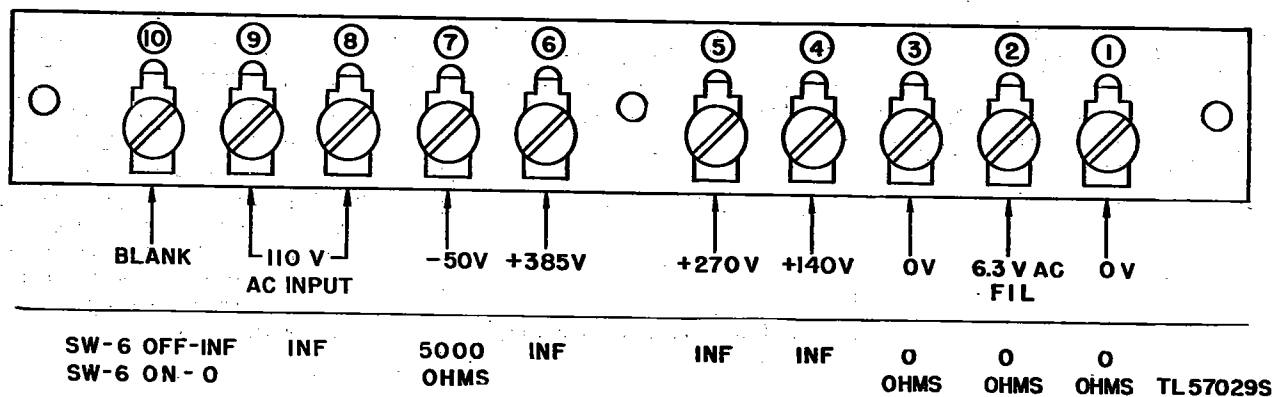

Figure 36. Receiver terminal strip, voltage and resistance measurements.
*c.* If no abnormal indication appears, measure the voltage and resistance between the terminals of terminal strip E4 and the receiver chassis (fig. 36). Correct readings will indicate that the power supply
| 3. Receiver inoperative. S-meter does not deflect as receiver is tuned. Dial lamps light.  | 3. Failure of B plus supply.....Defect exists between antenna terminal and detector stage. | 3. Remove metal cover from receiver terminal strip E4 and compare voltages measured between each terminal and chassis with values shown (fig. 36). If no B plus voltage is present, check power supply unit tubes. If voltage is low, check filter capacitors C1 and C2. See symptoms 4 and 5.   |